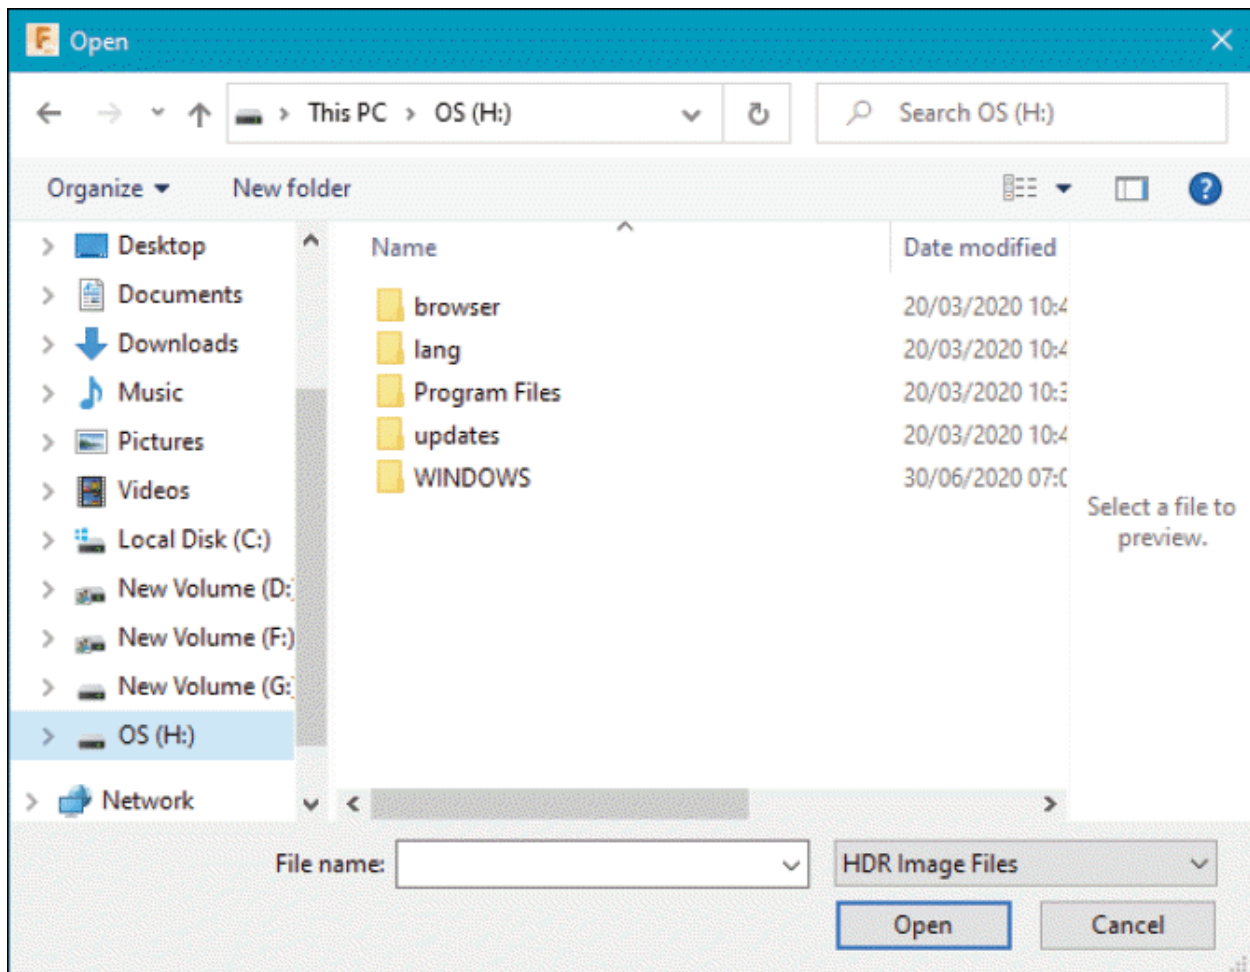

Figure-7. Open dialog box for attaching custom environment
- If you want to apply custom environment for model then click on the **Attach Custom Environment** button of **Environment Library** tab from **SCENE SETTINGS** dialog box. The **Open** dialog box will be displayed; refer to Figure-7.